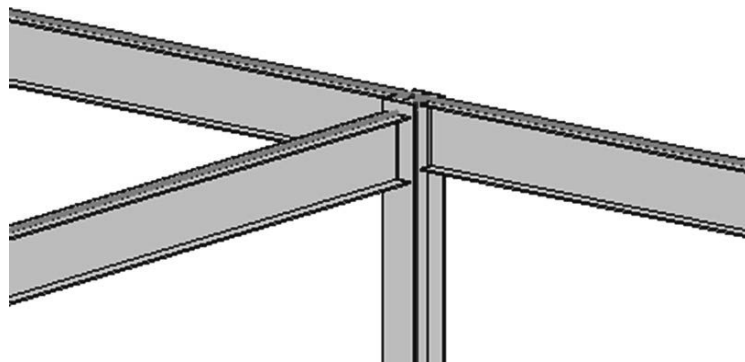

Figure 7-57
- Open a 3D view and zoom in on one of the top floor intersections. The north-south girders should be displayed below the east-west girders, as shown in Figure 7-57.